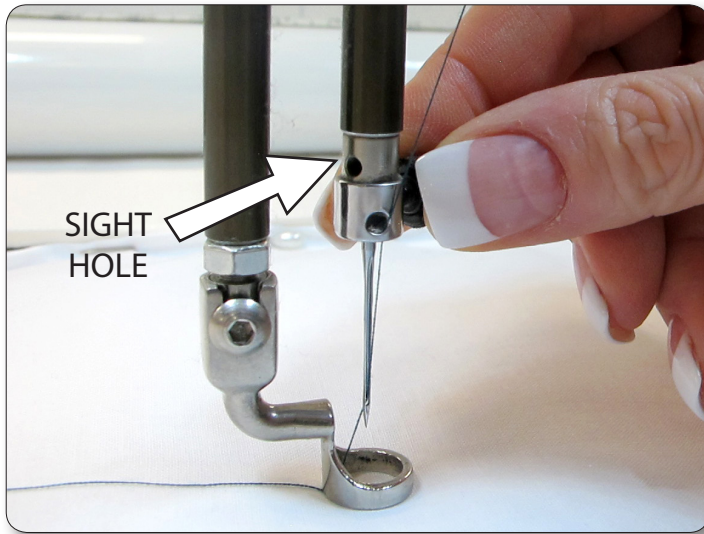

Figure 7
4. With the scarf (small ground out section/dip on the back side of the needle just above the needle eye) facing the rear hand wheel side of the machine, and the long groove down the front of the needle facing the bobbin case side (see Figure 7), push the needle all the way up into the needle bar – until it can go no farther. Look into the sight hole to verify that the butt of the needle reaches the top of the sight hole.
is touching the top of the stop/sight hole (Figure 7). If it is not, the machine timing will be off and it may be possible for the needle to collide with internal parts causing damage not covered by warranty.